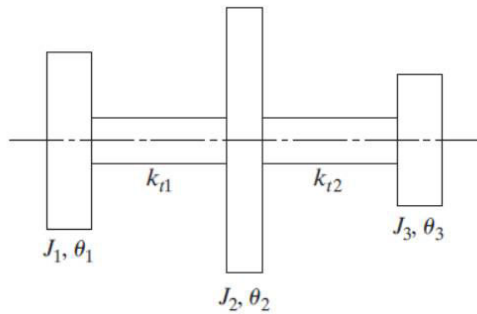

Figure 1
Q3 a) Find the modal matrix for the semi-definite system shown in Figure 1 (16)